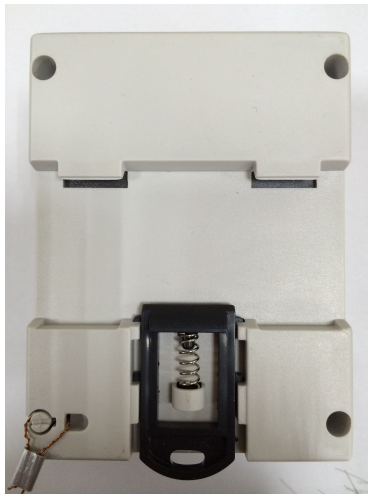

Fig.1
- * Push down the clip under the bottom of the meter for a gear, see fig. 1 and fig.2;